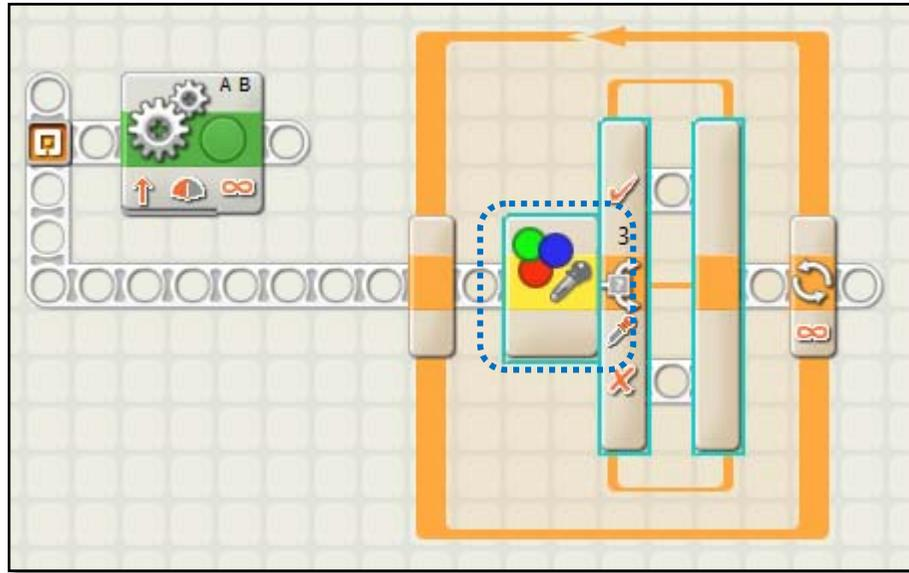

Figure 18 Switch block
**Step 5.** Drag and drop a Switch into the Loop block (figure 18).